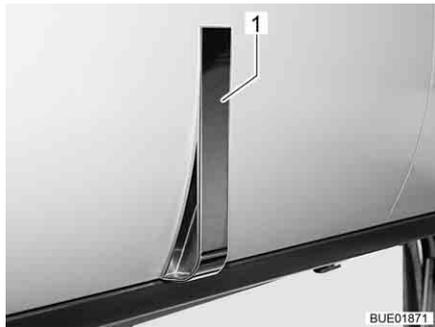
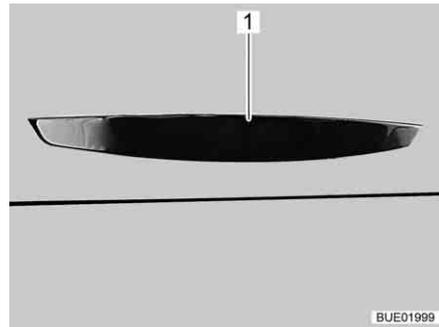

Fig. 41 Furniture flap with handle (example)
Fig. 42 Furniture flap with handle (alternative)
- Pull handle (Fig. 41,1 or Fig. 42,1) until furniture flap is open.